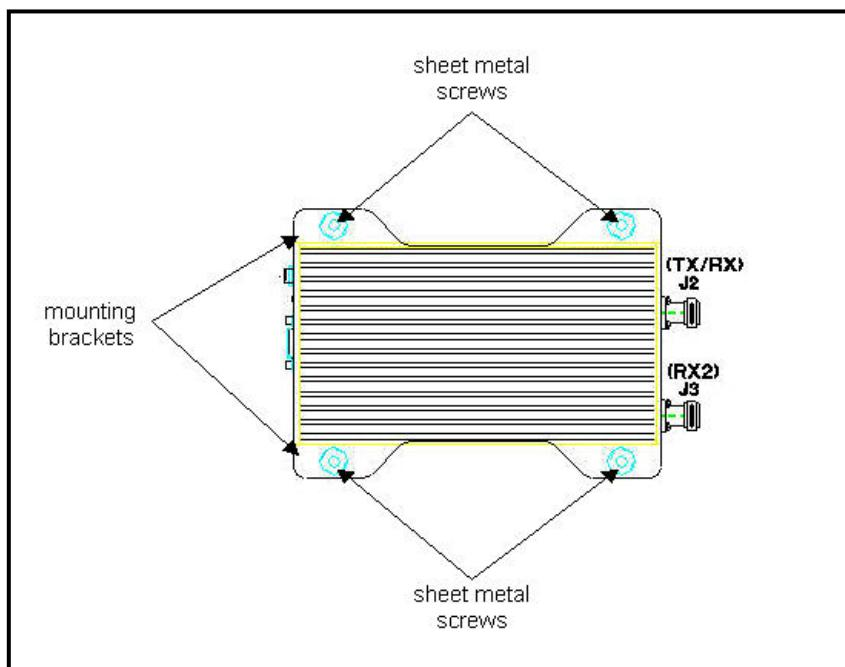

Figure 10: Mobile Radio Mounting
Step 1 As shown in Figure 10, secure the mobile radio into the trunk compartment. Insert four (4) sheet metal screws in the mobile radio brackets.